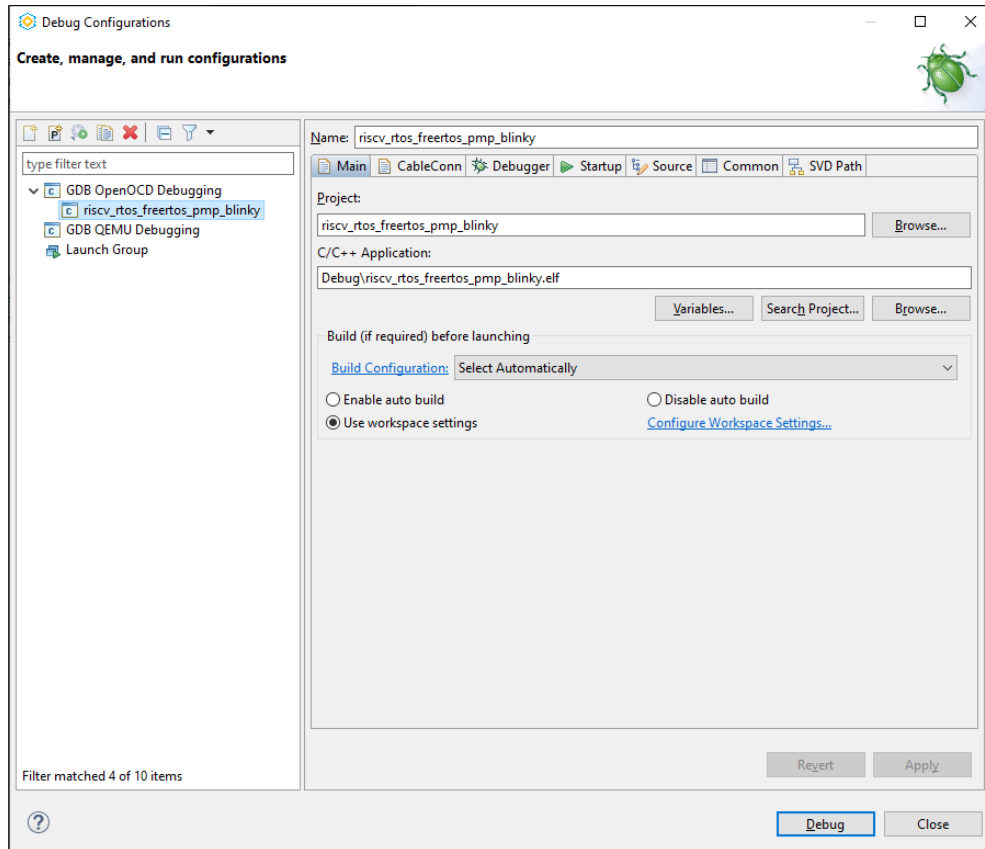

Figure 5.4. Debug Configurations Dialog 3
3. Choose riscv_rtos_freertos_pmp_blinky in **GDB OpenOCD Debugging** (Figure 5.4).